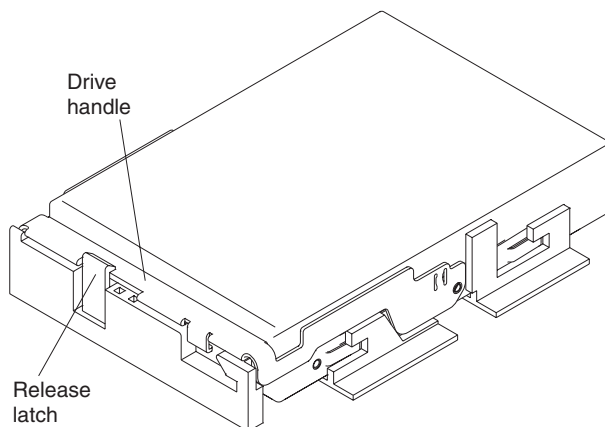

Figure 49. Locking the drive in place
- c. Lower the drive straight down; then, rotate the drive handle down until the drive snaps into place under the drive release lever. See Figure 49 on page 92.